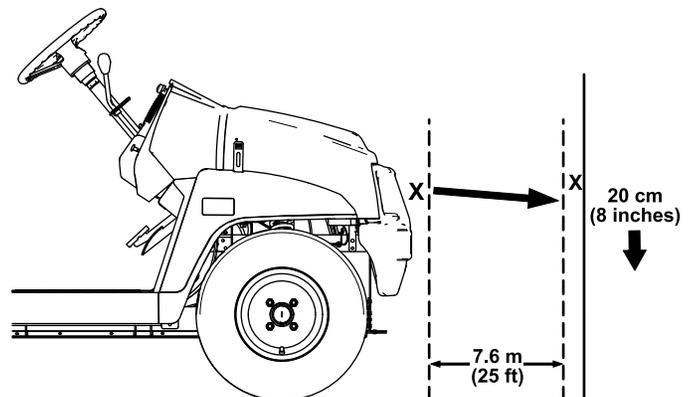

Figure 55
1. Park the machine on a level surface with the headlights approximately 7.6 m (25 ft) from a wall (Figure 55).
The brightest part of the headlight beam should be 20 cm (8 inches) below the mark placed on the wall (Figure 55).